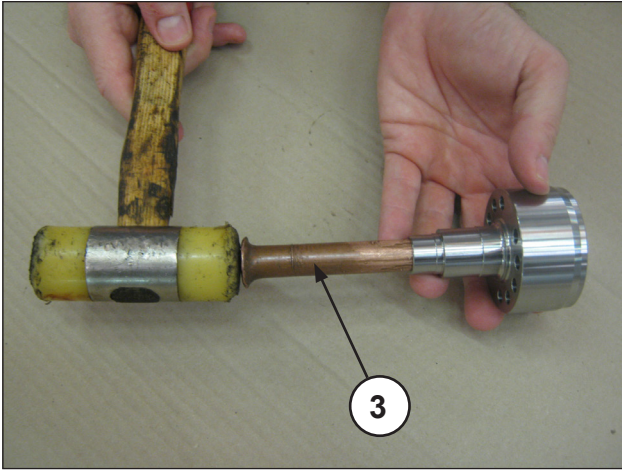
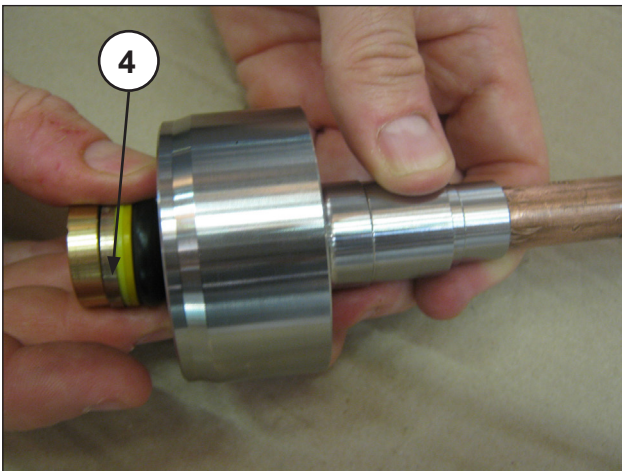

Fig. 34
Fig. 35
- With separate HP seals support and a special pin (pos. ③ Fig. 34) make the H.P. pack come out. pack (high pressure) (pos. ④ Fig. 35), finally extract the head ring (Fig. 36).
At each disassembly, the HP packing (Fig. 35, pos. ④) must be replaced.